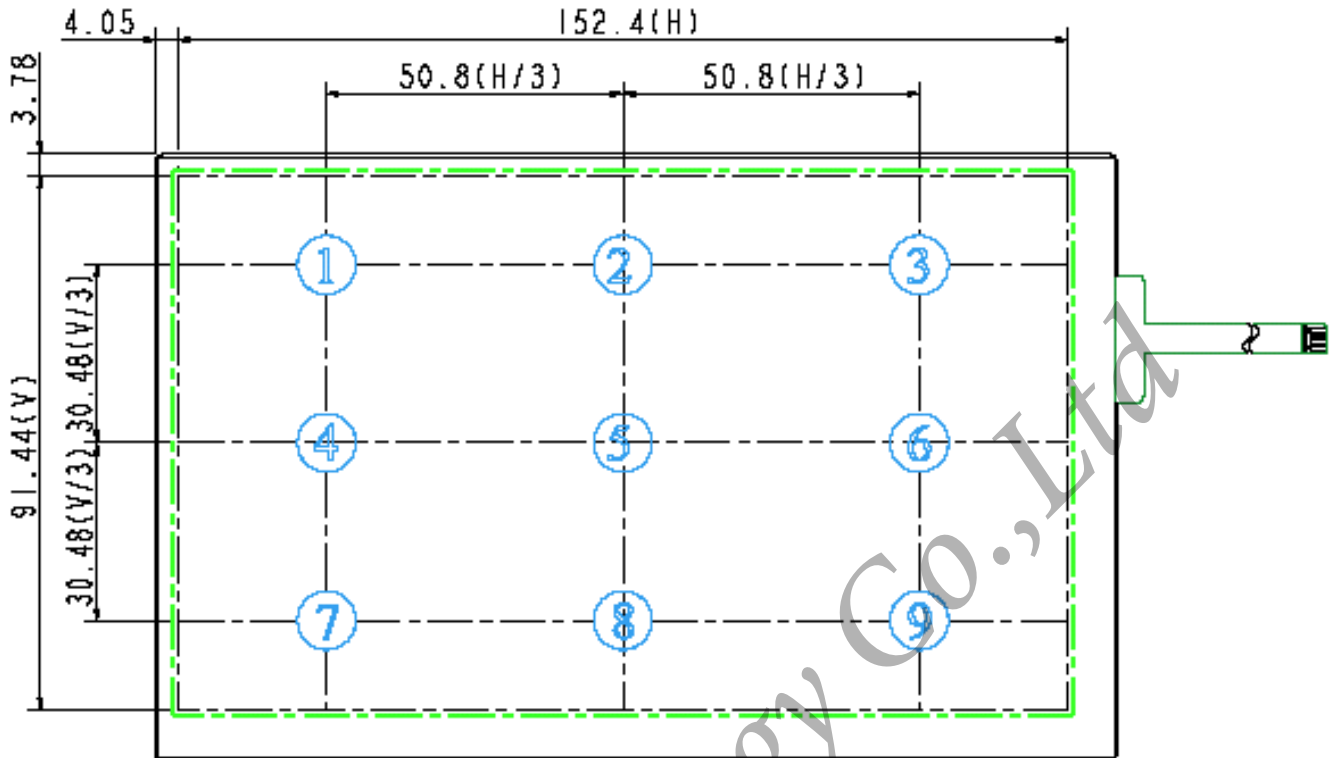

Fig9-1 Measuring point
*3) Definition of luminance : Measure white luminance on the point 5 as figure 9-1.
Definition of Luminance Uniformity: Measure white luminance on the point1~9 as figure9-1.